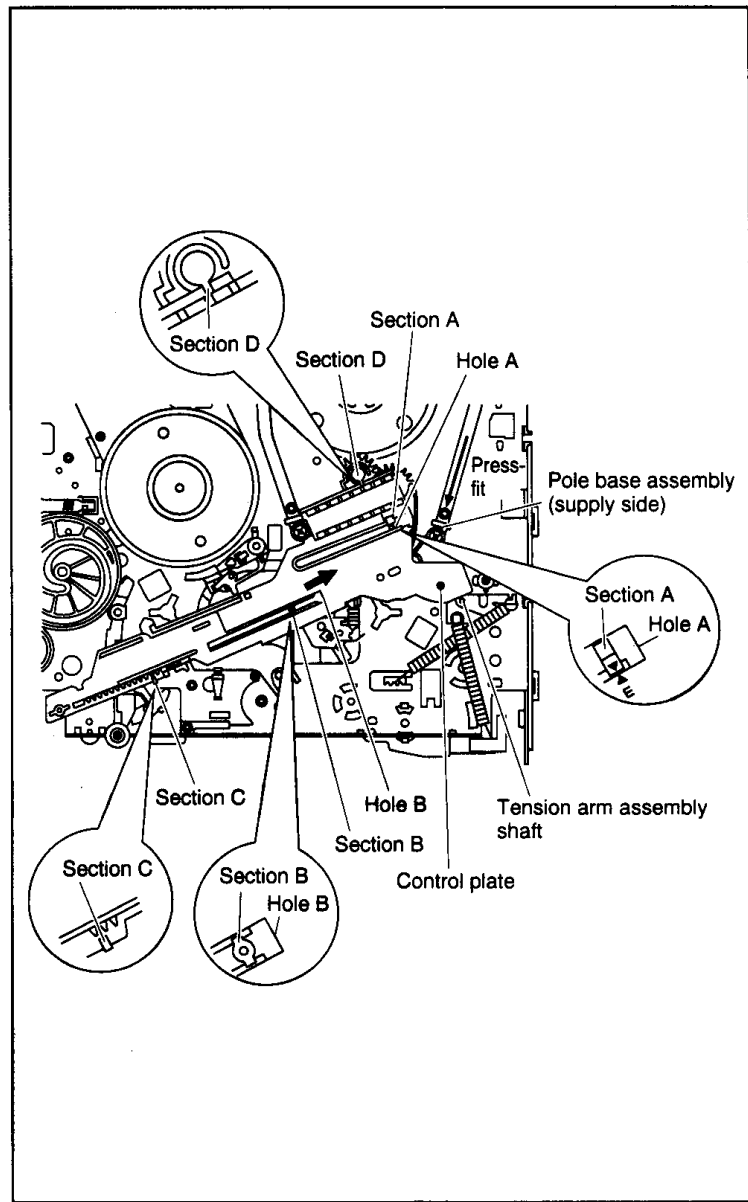
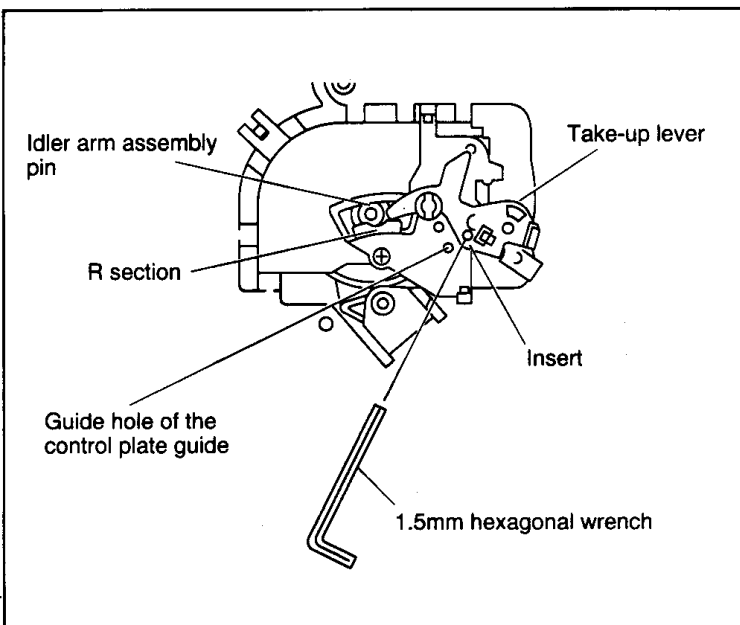

Fig. 2-2-31
Fig. 2-2-30
- (1) Adjust the position of the idler arm assembly pin as indicated in Fig.2-2-30 (to the left of centre of the R section).
- (2) Bring the guide hole of the take-up lever into alignment with the hole at the control plate guide and fix the position by inserting a 1.5 mm hexagonal wrench.
- (3) Install the control plate so that the section A of the loading arm gear shaft fits into the hole (A) of the control plate, the section B of the control plate guide into the hole (B), and the control plate comes under the section C of the rotary encoder guide and the section D of the loading arm gear shaft while press-fit the pole base assembly (supply side) as indicated by the arrow. It is important that the tension arm assembly shaft is positioned closer toward you than the control plate. (See Fig.2-2-31.)
- (4) Make sure that the mark E of the control plate is in alignment with the mark ▼ of the loading arm gear shaft. (See Fig.2-2-31.)
- (5) Pull off the hexagonal wrench for positioning.